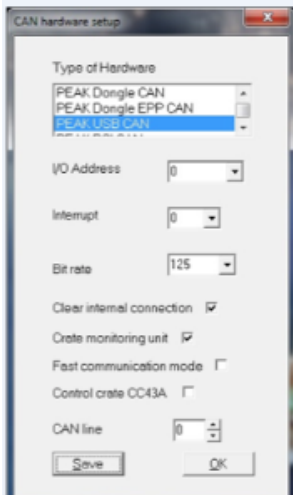

Figure 12a. iSEG Hard ware Setup and Main screen
- Start the iSEG High-Voltage Control software using the desktop icon (Fig. 12a and 12b) or select **Start > All Programs > iSEGHVwithC an > iSEG CANHVControl** to open the **iSEG Main** window. This program controls the high-voltage power supply for the plastic scintillator MPTs through the iSEG power supply.